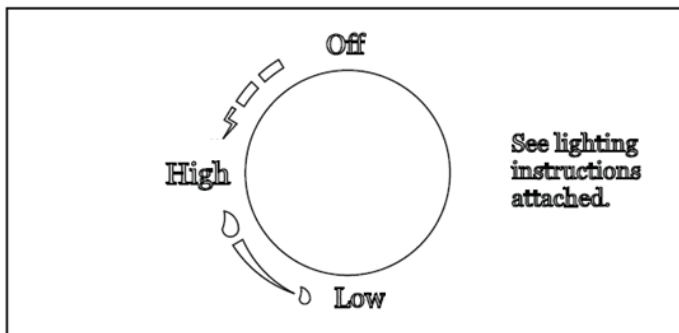

Figure 3
2. Make sure regulator/control knob is in the "OFF" position (Figure 3).
3. Control knob must be in the “OFF” position (Figure 3).